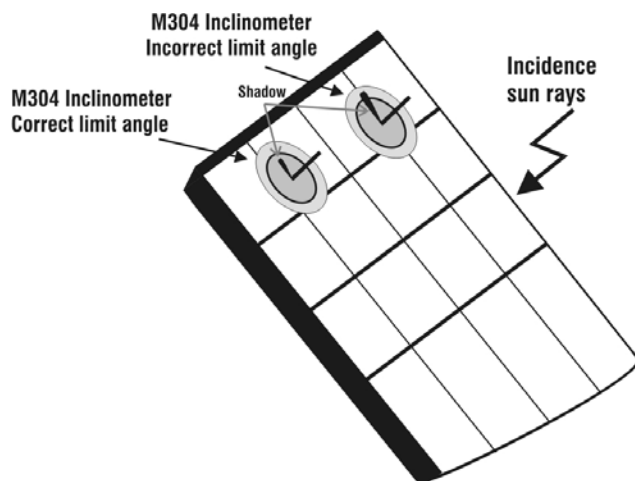

Fig. 8: Positioning the M304 inclinometer
16. Mount the M304 (inclinometer) supplied accessory, place and hold it on the plane of module. **Verify that the sun shadow falls on the disc within the “limit internal circle” on the disc itself (see Fig. 8).** If this is not the case, the incidence angle between sun rays and the module surface is too high and not complying with the test conditions declared by the module manufacturer. As a consequence the measurements performed by the meter are not ok and all measurements steps shall be repeated at another daytime